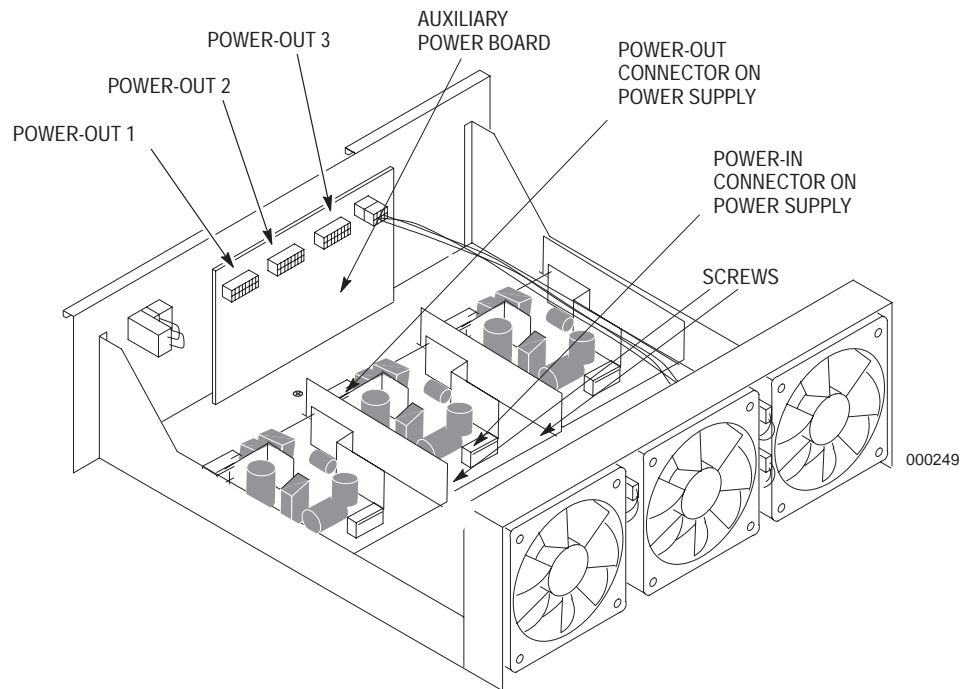

Figure 11-10. Power-Distribution Tray With the Three Power Supplies.
Power supplies are located in the center of the power-distribution tray, as shown in Figure 11-10. Replace a power supply as follows:
Disconnect the power-in and power-out cables from the connectors on the power supply to be replaced (Figure 11-10). Also disconnect the other end of the same power-out cable from the auxiliary power board.
3. Use a #2 Phillips screwdriver to remove and save the two screws that secure the power supply to the tray at the front of the power supply (Figure 11-10).